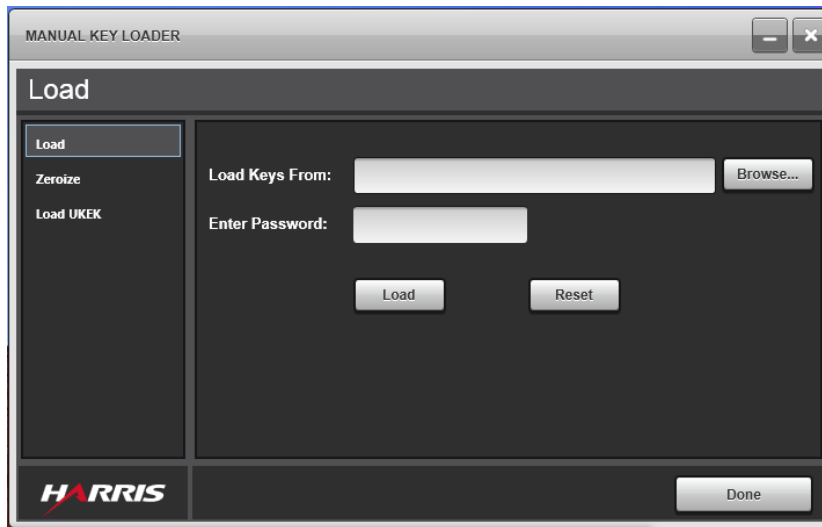

Figure 13-5: Symphony Manual Key Loader Dialog
1. Start the Manual Key Loader. The Manual Key Loader displays the Load Keys page (Figure 13-5).